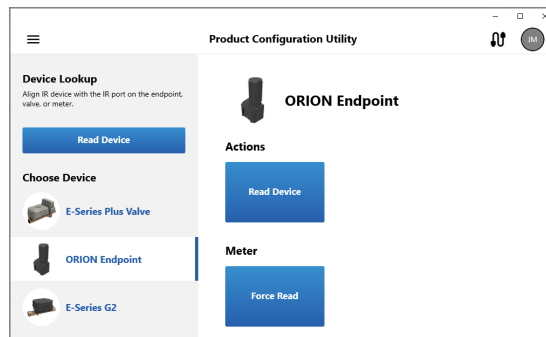

Figure 28: ORION endpoint selected
1. Select **ORION Endpoint**. See Figure 28.